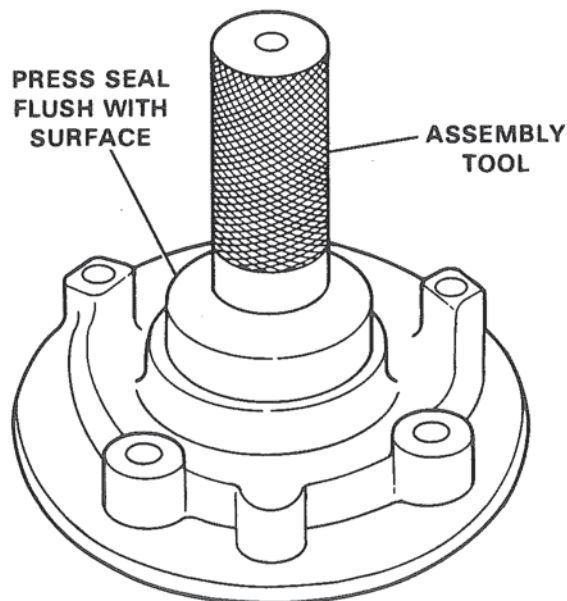

Figure 80. Pressing Pump Oil Seal into Housing.
3. Using an arbor press and suitable tool, press seal into housing until front face of seal is flush with front face of pump housing. Figure 80.